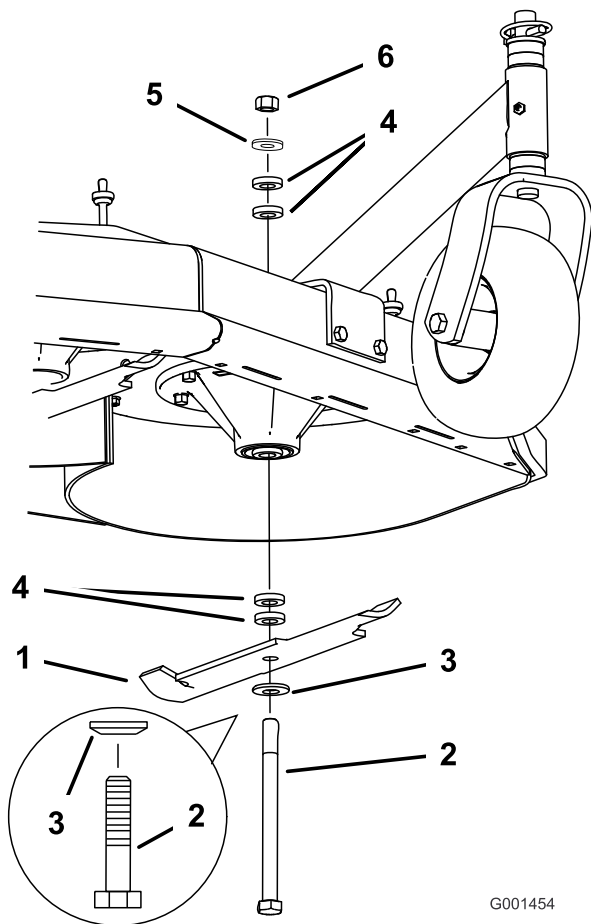

Figure 62
2. Remove the nut, blade bolt, curved washer, blade, spacers, and thin washer from the spindle (Figure 62).
1. Install the bolt, curved washer, and blade. Select the proper number of spacer(s) for the height-of- cut, and slide the bolt into the spindle (Figure 62).
2. Install the remaining spacer(s) and secure them with a thin washer and a nut (Figure 62).